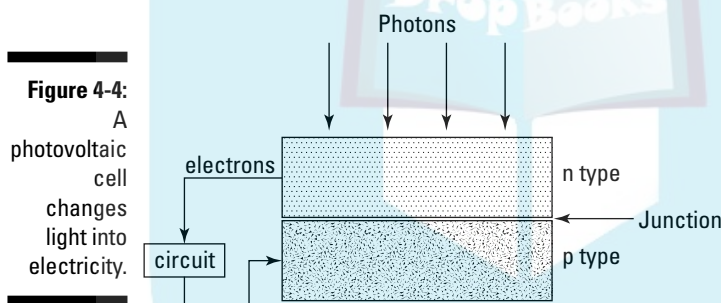

Figure 4-4:
A standard PV cell, shown in Figure 4-4, is a thin semiconductor sandwich, with two layers of highly purified silicon. A *semiconductor* is a crystal that is constructed in such a way as to yield certain specific properties that can be used in electrical circuits. Transistors are made of semiconductors. Microprocessors are as well. In fact, the entire field of modern electronics uses various forms of semiconductors, so the implications are worldly. If you connect an electrical circuit to your semiconductor sandwich when sunlight is shining on it, electricity flows.
Photovoltaic arrays are nothing more than huge matrices of interconnected semiconductor sandwiches. The color appears shiny blue. Usable PV systems are comprised of all sorts of equipment that protects the user from electrical shock, stores the electricity in battery banks, and converts the direct current (DC) into alternating current (AC), which is what people use in their houses. But at the heart of each system is a simple conversion process like that shown in Figure 4-4.